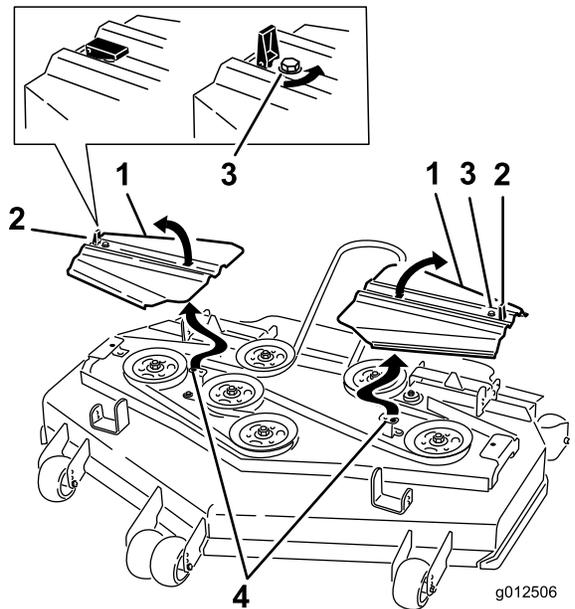

Figure 70
14. Install the belt covers with the tabs in the slots. Install the screws and close the latches (Figure 70).